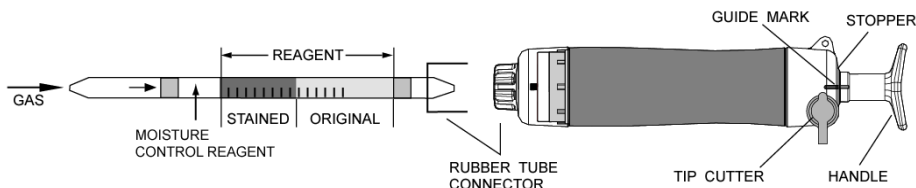

Fig.1
- ① Break both ends of detector tube.
- ② Insert the detector tube into aspirating pump securely as shown in Fig.1. (Arrow mark shall point to the pump.)
- ③ Align the guide marks on the shaft and stopper of the aspirating pump.
- ④ Pull the pump handle at full stroke until it locks and wait for 1 minute or until the completion of sampling is confirmed with the flow indicator of the pump (See descriptions about the flow indicator in the instructions of the pump).
- ⑤ On completion of sampling, read the scale at the maximum point of the stained layer.
- ⑥ In case of 2 pump strokes, push the handle once more without removing the detector tube from the pump inlet, turn it right or left 1/4 and repeat step ④ once.
- ⑦ In this case, actual concentration is half of the reading value.